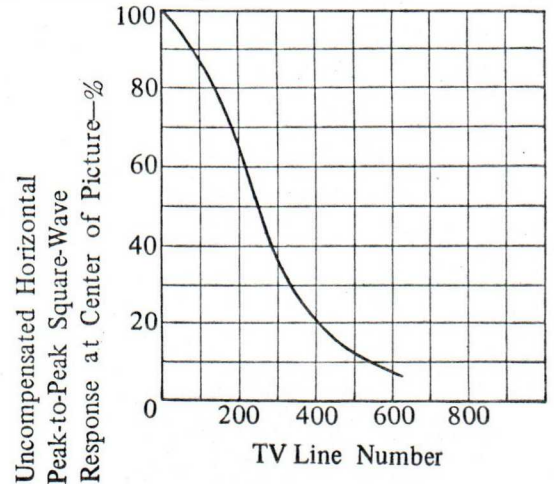

Fig.7 Typical Transmission of Infrared Absorbing Filter, Thickness = 5.0 mm
10. With the same light source specified in note 8 except on infrared absorbing filter (Schott Jenaer KG-3, 5mm thick) is interposed between the light source and the faceplate of the tube. (See Fig. 7)